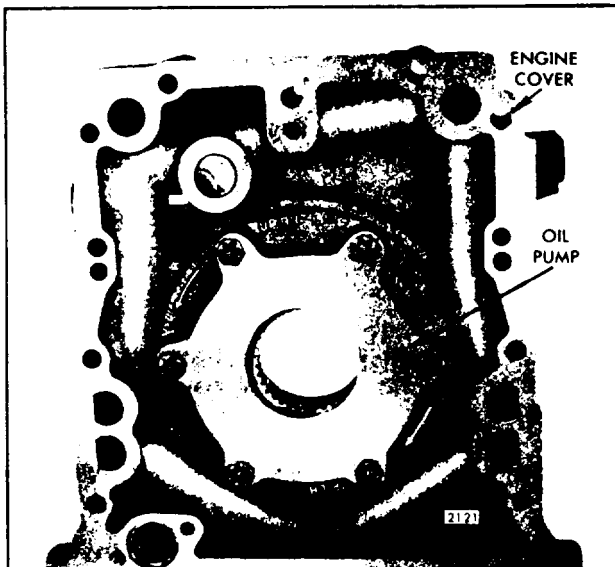

Fig. 1. - Typical Right-Hand rotation Lubricating Oil Pump Mounting
6. Remove the six bolts and lock washers (if used) which attach the pump assembly to the engine front cover (Fig. 1) and withdraw the pump assembly from the cover.